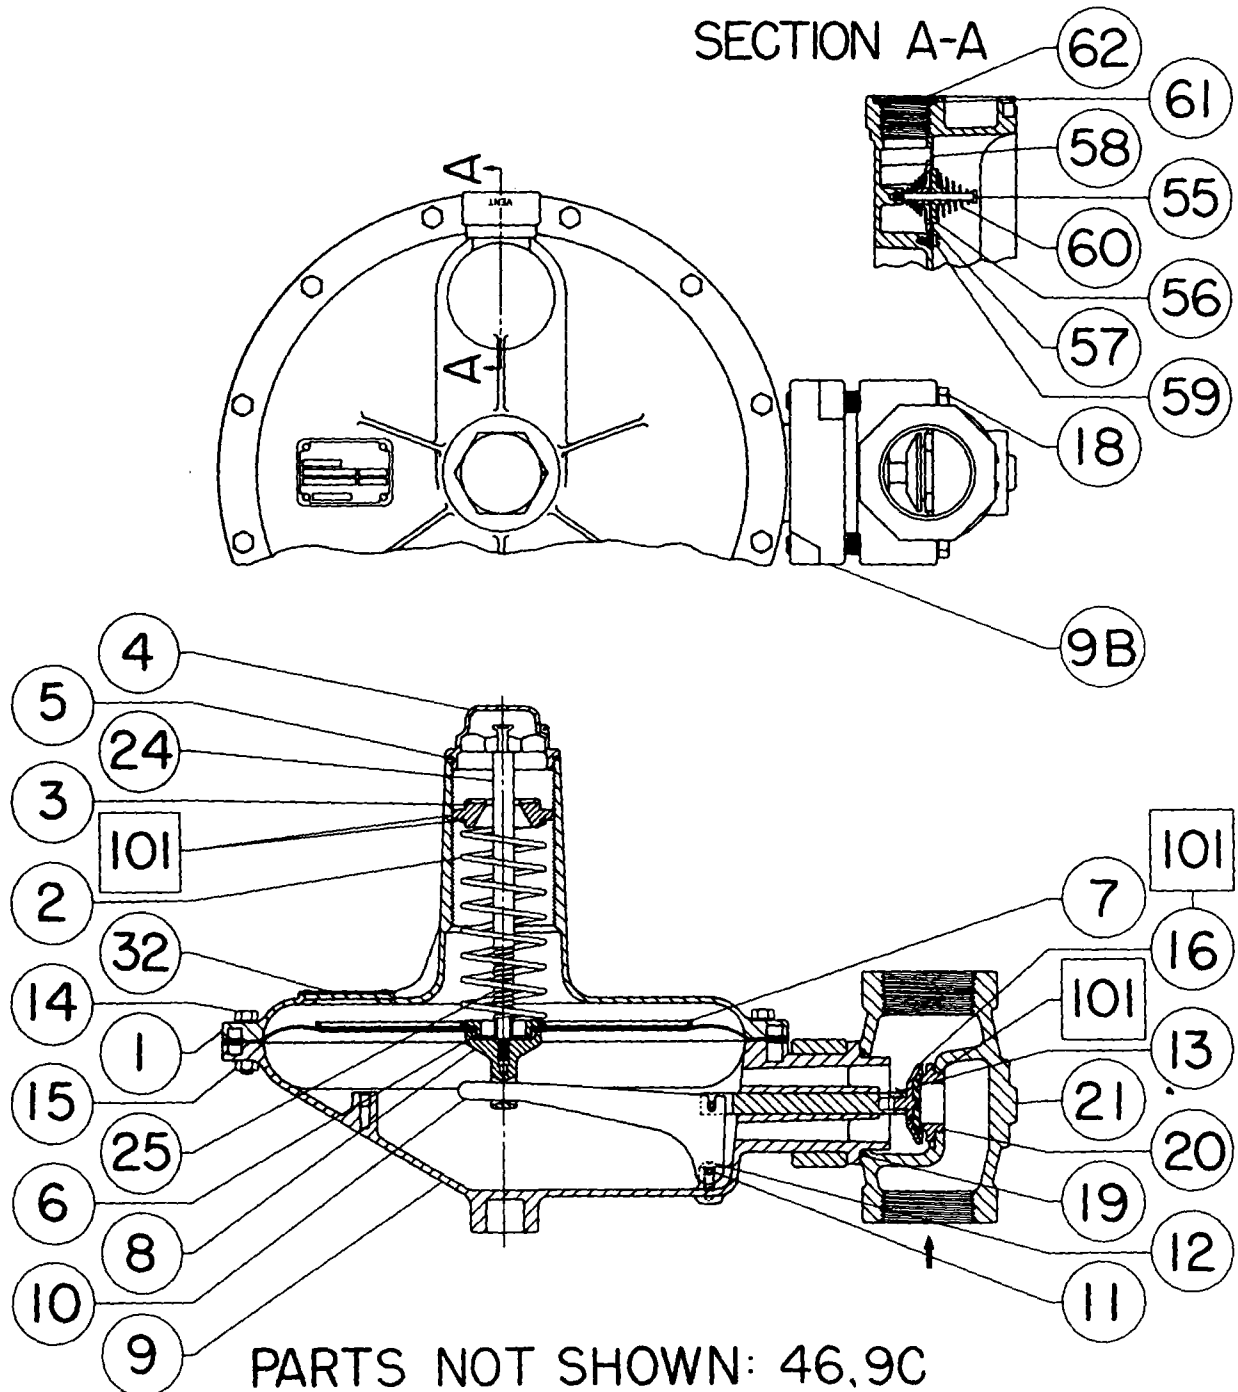

Figure 4. Type S202 Regulator
1. Remove the closing cap (key 4, figure 4) or loosen the hex locknut.
2. To increase the outlet setting, turn the adjusting screw (key 3, figure 4) clockwise. To decrease the outlet setting, turn the adjusting screw counterclockwise.
1. Remove the closing cap (key 4, figure 4) or loosen hex locknut. Turn the adjusting screw or nut (key 3) counter-clockwise to ease spring compression.
2. On S201, S201H, S202, and S202H units, remove the adjusting screw and spring (key 2).
1. Remove the bolts (key 18, figure 4) which hold the lower spring casing (key 9) to the body (key 21). Separate the lower spring casing from the body.
2. Check the body O-ring (key 19) for wear.
3. Examine the valve disc (key 16) for nicks, cuts, and other damage. Unscrew the disc holder assembly from the valve stem assembly (key 13) and replace it with a new part if necessary.
4. If the seating edge of the seat ring (key 20) is nicked or rough, remove the seat ring from the body. Change to a new part when reassembling the regulator. (If the seat ring is being replaced with a different sized port, change the nameplate to state the new size and maximum inlet pressure.)